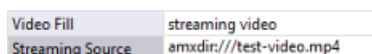

FIG. 144 TPDesign5 - Streaming Source (State) property
10. For the *Streaming Source* property, enter the filename of the video file with **amxdir:///** as the prefix. For example, if the video filename is "test-video.mp4" then enter the *Streaming Source* as "amxdir:///test-video.mp4" (FIG. 144):